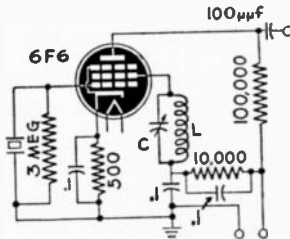

Fig. 602
A. You will have ample output from a 6F6 crystal oscillator as shown in Fig. 602, LC is tuned to approximately the crystal frequency.